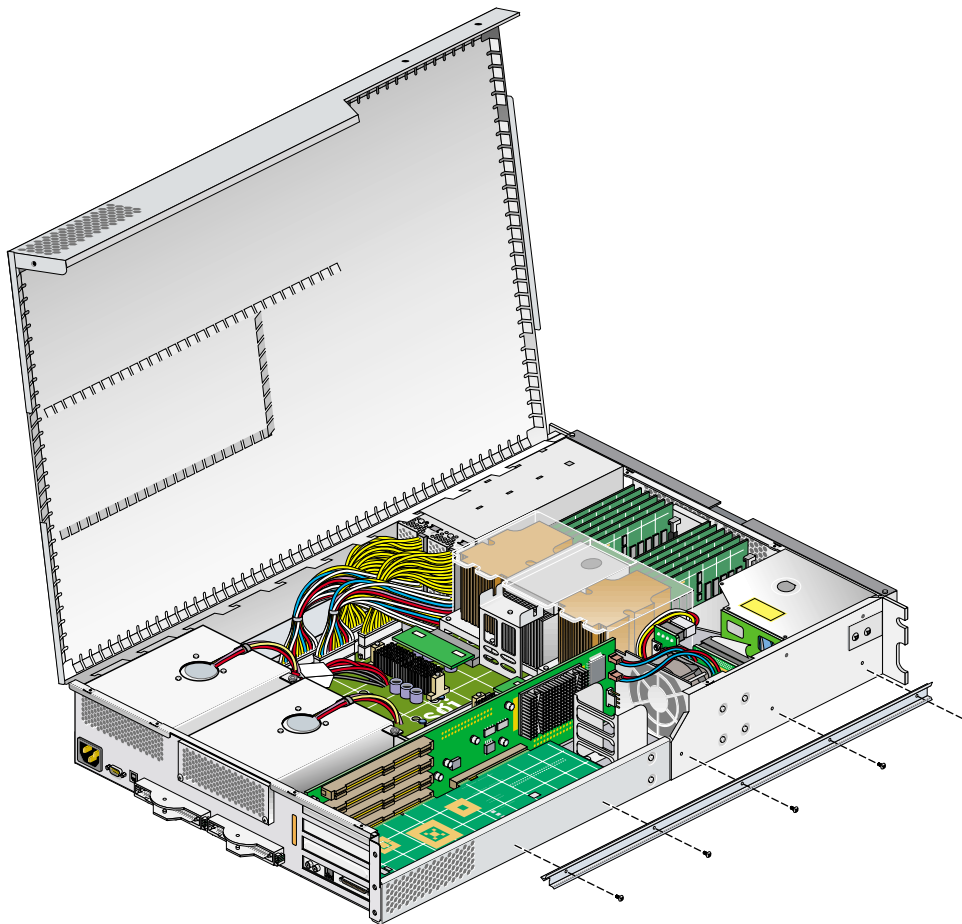

Figure 4-9 Replacing the Chassis Rail
13. Replace the optional chassis rail (if applicable) by screwing in the five Phillips screws, as shown in Figure 4-9.